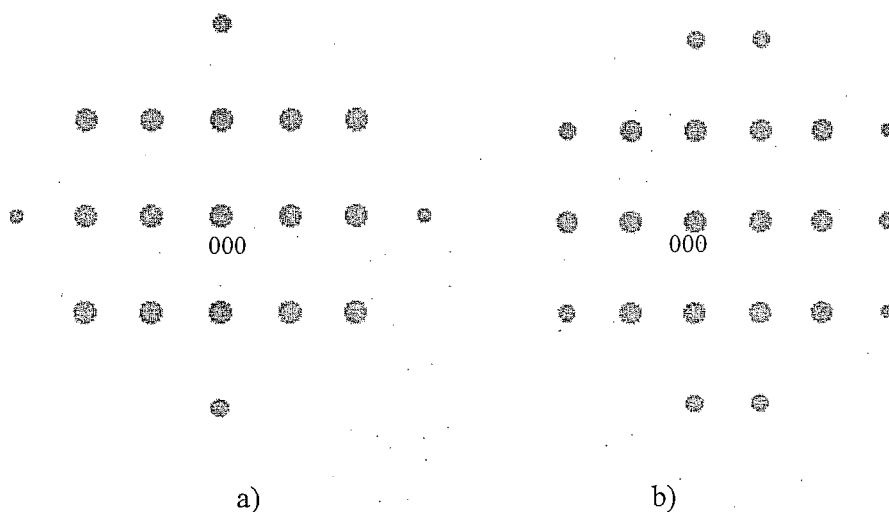

Fig. 1. Diffraction patterns from a BCC crystal.
The diffraction patterns in Fig. 1 are obtained for a BCC crystal using a TEM operated at 200 kV.
- One of the patterns in Fig.1 is obtained with the electron beam incident along the zone axis. Which one? Explain your answer. (0.5p)
- The other pattern in Fig. 1 is obtained after rotation around one axis. Which one? Explain your answer. (0.5p)